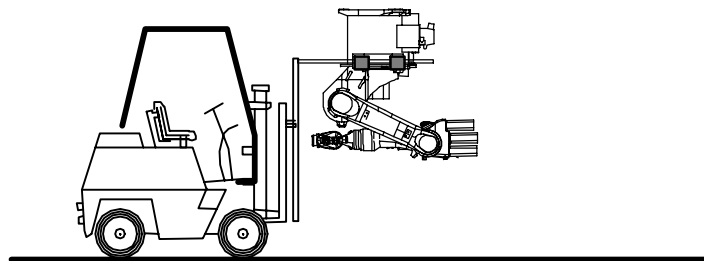

Fig. 44 Transporting ceiling-mounted robots
- With fork lift truck (Fig. 44)